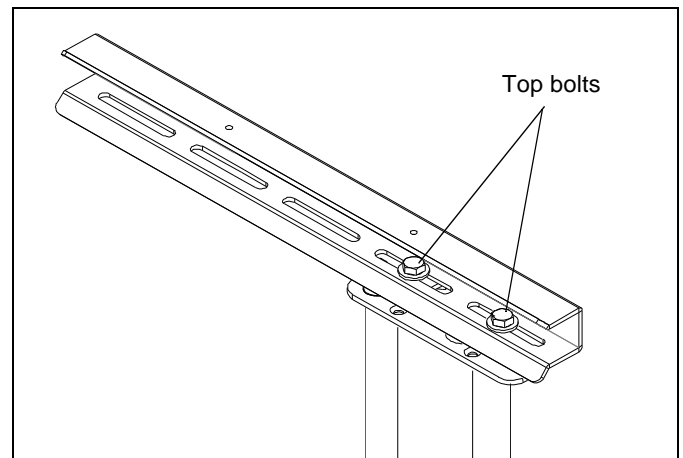

Figure 14
- Right of Center (See Figure 14).